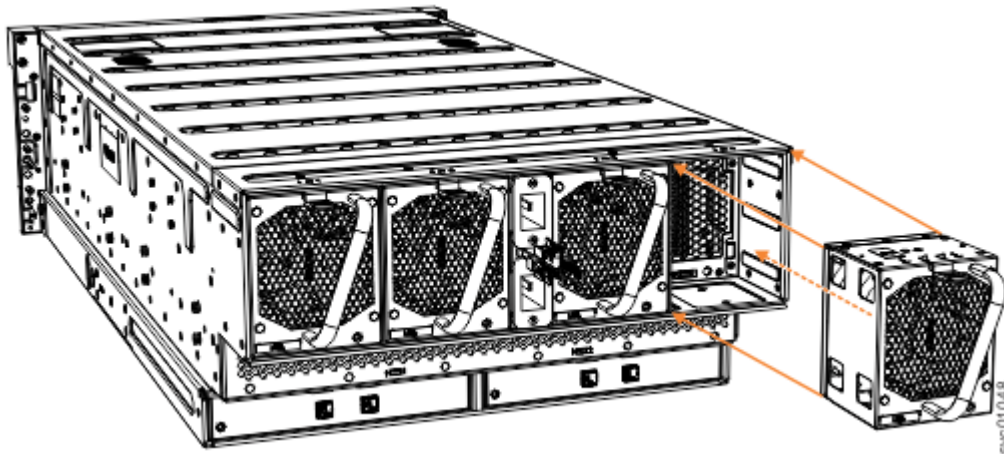

Figure 147. Remove and replace a fan module
3. Use the handle to pull the fan module out of the expansion enclosure chassis, as shown in Figure 147 on page 197.
6. Carefully insert the fan module into the chassis until it clicks in place, as shown in Figure 147 on page 197.